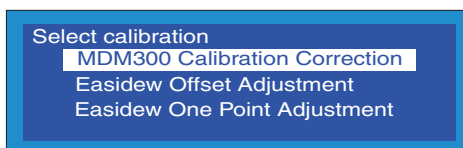

Figure 34 Calibration Page
3. The offset adjustment screen is now displayed which reports the size of the offset (-1.3 °C) between the readings of the MDM300 and the external transmitter as shown in *Figure 34*.